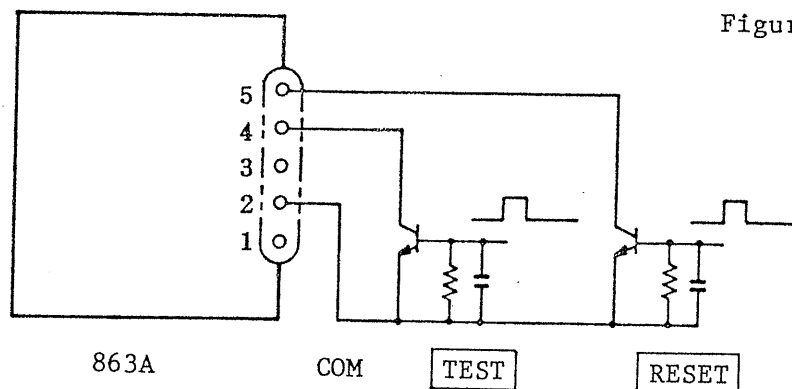

Figure 4.5
- (3) Logical elements or transistors may be used instead of the switches in Figure 4.3. The signal status for such operation is shown in Figure 4.5. The input conditions of this instrument for such operation are as follows: